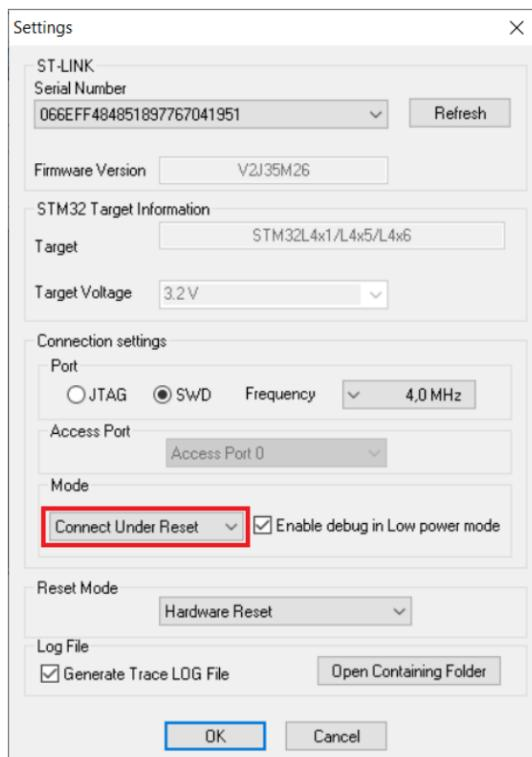

Figure 8
2. Select the **Connect Under Reset** option from the drop-down menu under **Connection settings → Mode** (see Figure 8).